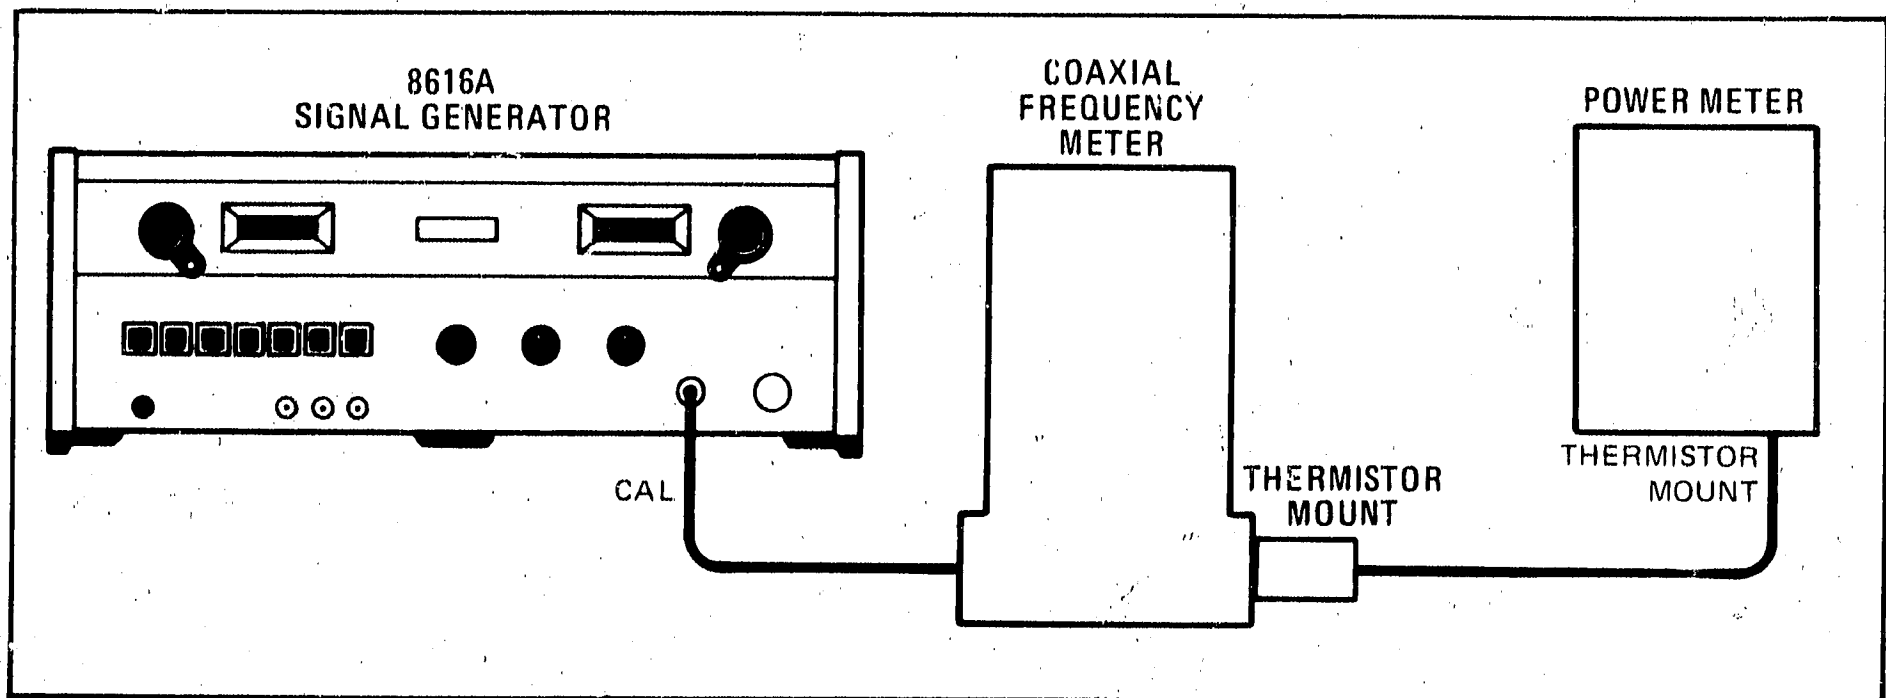

Figure 5-7. Frequency and Power Measurement
- a. Connect instrument as shown in Figure 5-7.
a. Connect instruments as shown in Figure 5-7, omitting the frequency meter.